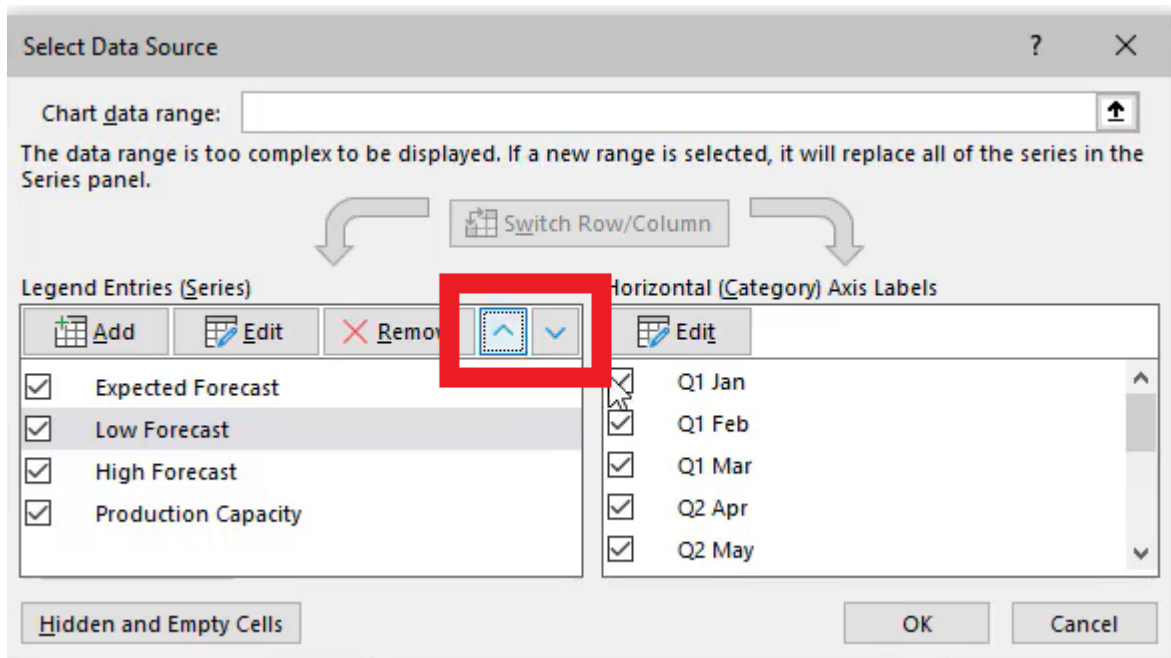

Figure 37.33
2. In the Select Data Source popup box, under the Legend Entries (Series) section, there are two arrows (one point up and one pointing down). Select **Low Forecast** and select the **Up** arrow indicated in **Figure 37.33**. This will adjust the order of the high and low forecasts.